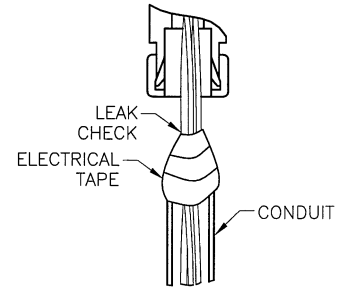

Figure 8
3. Carefully raise Electrical Fitting Kit to expose the motor leads and the top of the conduit. Take care not to damage motor leads on the DPS pressure lines. Seal off motor leads to conduit with adhesive tape. Refer to Figure 8.